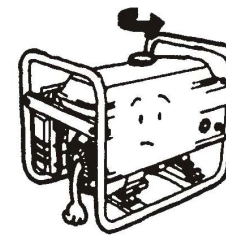

Figure 13
2.2. Remove the fuel filler cover (Figure13)